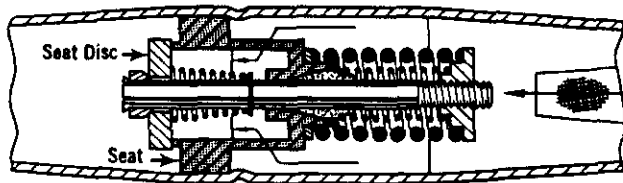

Figure-4
**ORD VALVE OPERATION** - The ORD valve is a pressure differential valve that responds to changes in the pressure difference across the valve, Figure-4. The valve designation stands for Opens on Rise of Differential pressure. Therefore, the ORD is dependent on some other control valve or action for its operation. And in this respect, it is used with the ORI for head pressure control.